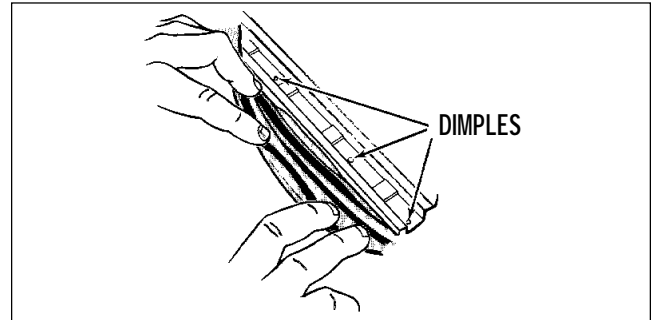

Figure 162
2. Gently roll the gasket over to expose the edge of inner liner and locate dimples to indicate location for screws. See Figure 162.
3. Drill 1/8" pilot holes at the dimple locations. See Figure 162.